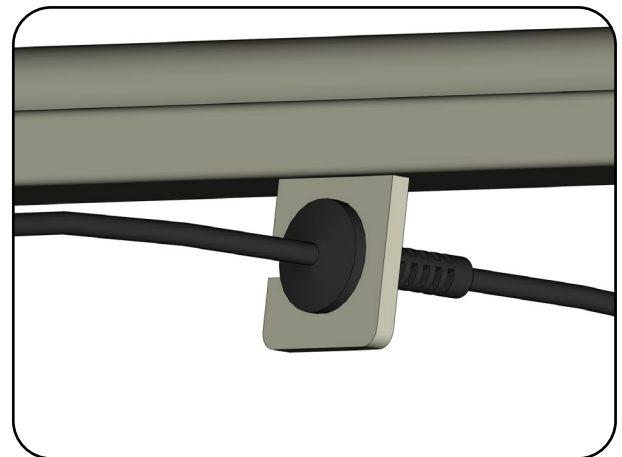

Fig. 6.2.03 – Strain relief in holder
2. Press the strain relief of the power cable into the holder on the head end (Fig. 6.2.03).